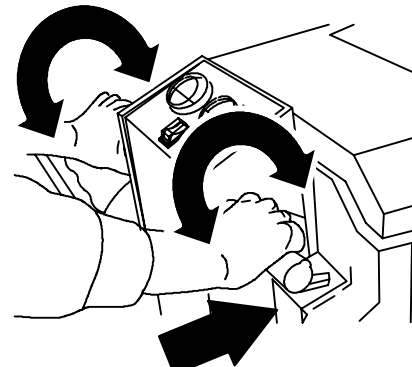

FIG. 27
- Rotate control grips in either direction and push machine forward to begin scrubbing. The scrub brush will assist in propelling the machine forward (Figure 27).